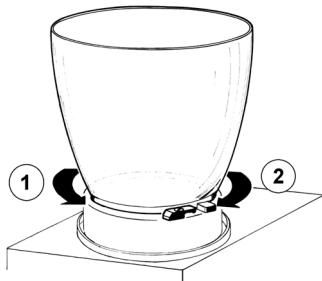

figure 2
- 4 Remove the empty bowl by rotating it counterclockwise (see figure 2).
Wet the gasket for ease of insertion (see figure 2).